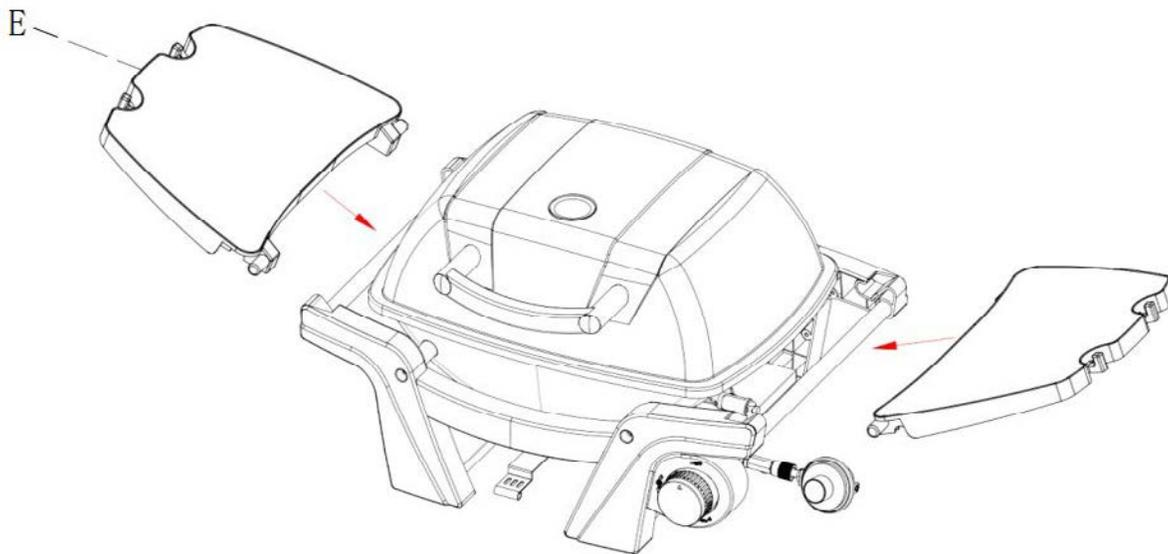

Figure 05.
Then, place 2 pcs side tables (E) onto each side of the carry handles as figure 05.